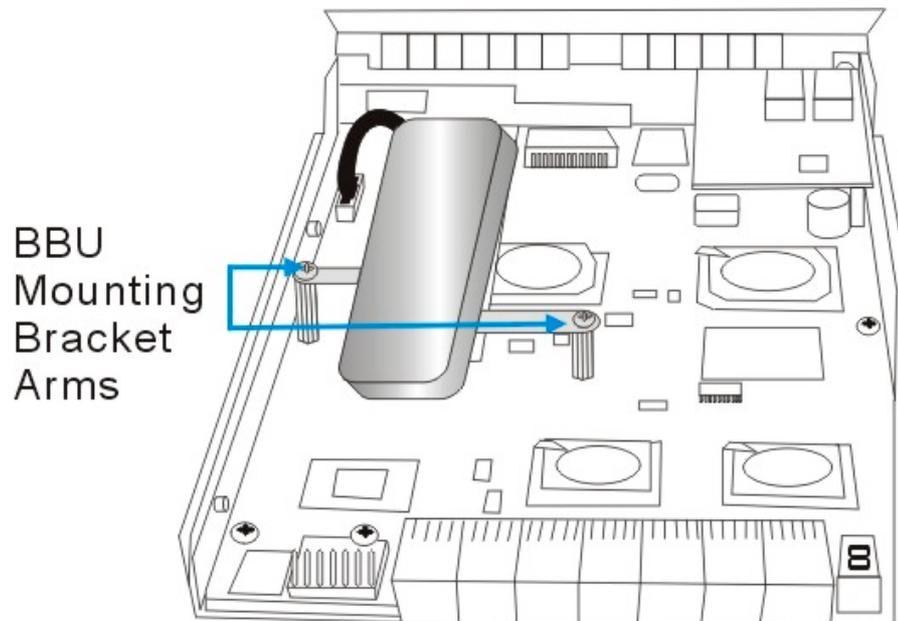

Figure 5-4: Disconnect BBU Connector and Remove BBU Retention Screws
Step 2. After the controller module has been removed from the subsystem, **disconnect the BBU cable** from the connector on the side of the controller board. (See *Figure 5-4*)
Step 3. After the cable has been disconnected, **remove the retention screws** from the arms of the BBU. These retention screws are attached to spacers that are connected to the BBU board. (See *Figure 5-4*)